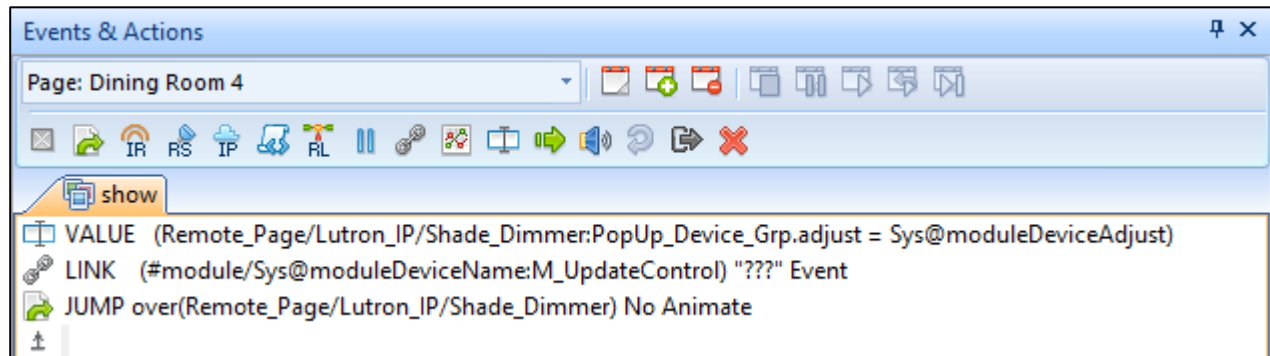

Figure 38 - Page's "Show" Event
- b. For the new page, under Events and Actions, create a “show” event and add these three actions in this order: GUI Action, Link Action, and Page Jump Over Action (Figure 38).